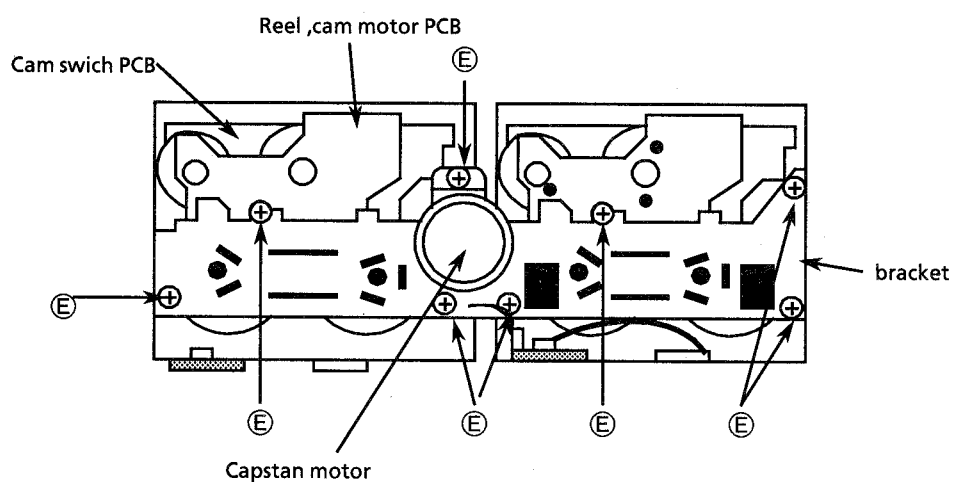

Fig 15 Cassette mechanism bottom view
- (31) After inserting the turntable, bond the motor shaft and turntable together (at the section marked by an arrow in fig 15 on the left below).